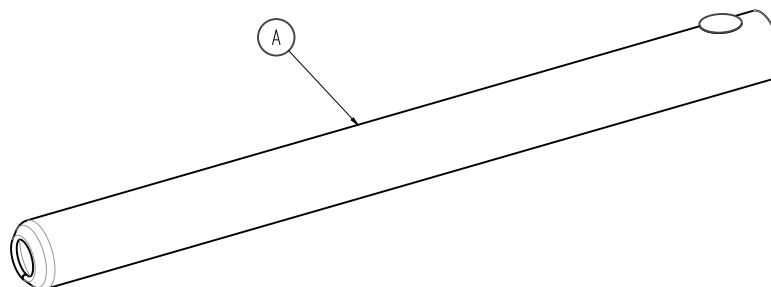

Figure 13 – Hose sleeve
5. Slide the hose sleeve (A) over the CPR connector and remove (Figure 13). Discard the hose sleeve.